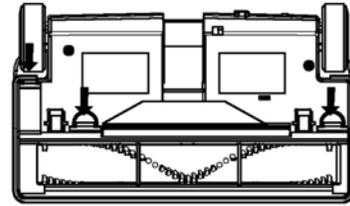

Figure 5.
2. Press the 3 snap release clips (as shown in Figure 5) and remove brush cover.